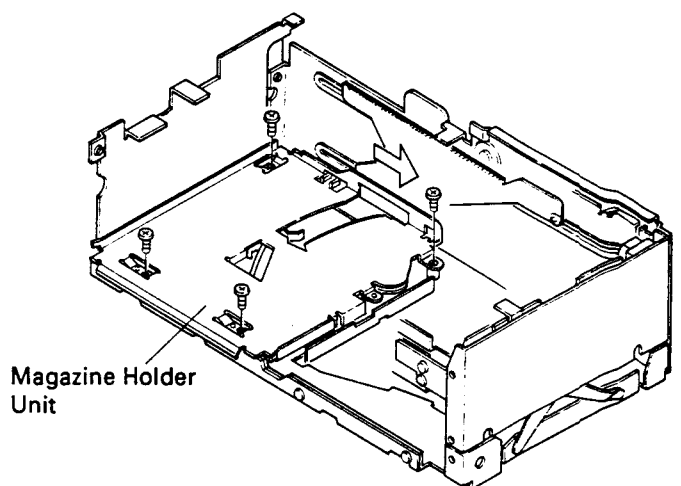

Fig. 16
1. Move the elevation on the back in the direction of the arrow. (Fig. 16)
2. Install the magazine holder unit with four screws. (Fig. 16)